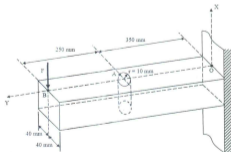

Figure 4 (A repeated load F acting at the end of a beam)
4. A horizontal cantilever beam has a hole of radius $r = 10 \text{ mm}$ and is fixed to a vertical wall as shown in Figure 4. The length of the beam is $L = OB = 600 \text{ mm}$ and the square cross-section is $80 \text{ mm} \times 80 \text{ mm}$. A repeated vertical load F , with an alternating component $F_a = 20 \text{ kN}$, is acting at point B. The beam is AISI 1080 hot-rolled steel, operating at room temperature, with a reliability of 99.99%, and miscellaneous effects can be ignored. (30)